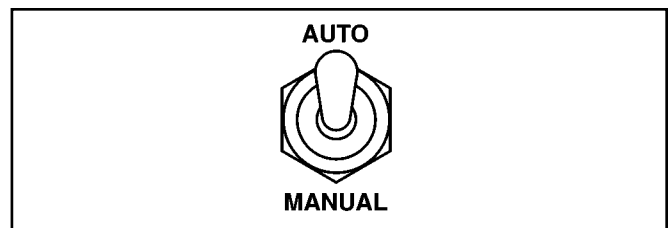

Figure 1-8 Auto/Manual Switch
- **Auto/Manual Switch.** (Refer to Figure 1-8) Allows operators to select between automatic and manual control.